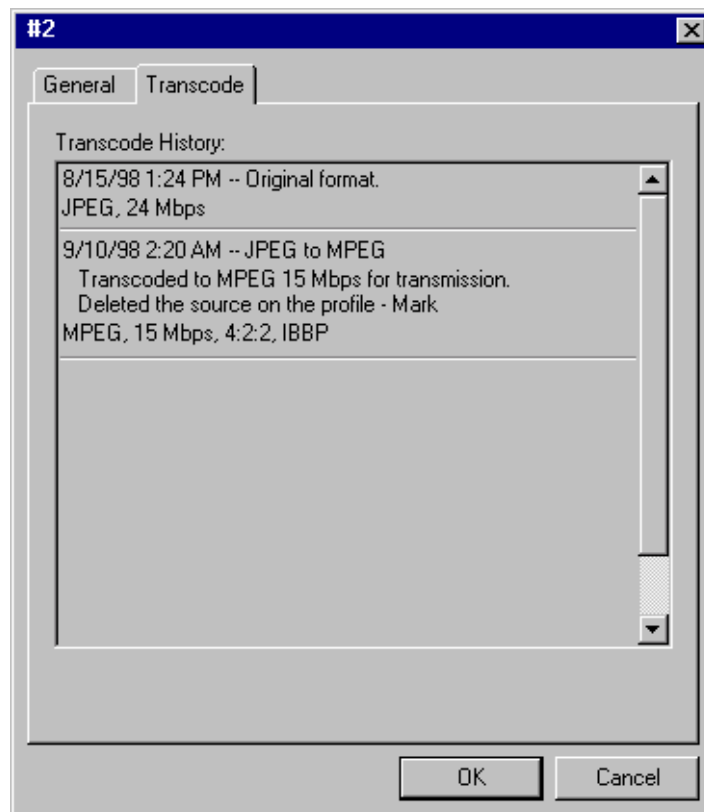

Figure 28. The transcode history page
5. Click the **Transcode** tab to view the transcode history (shown in Figure 28) for the master or clip. Each entry on the history page contains the date and time of the conversion, user description, target format, and when applicable, data rate, chrominance value, and GOP structure.